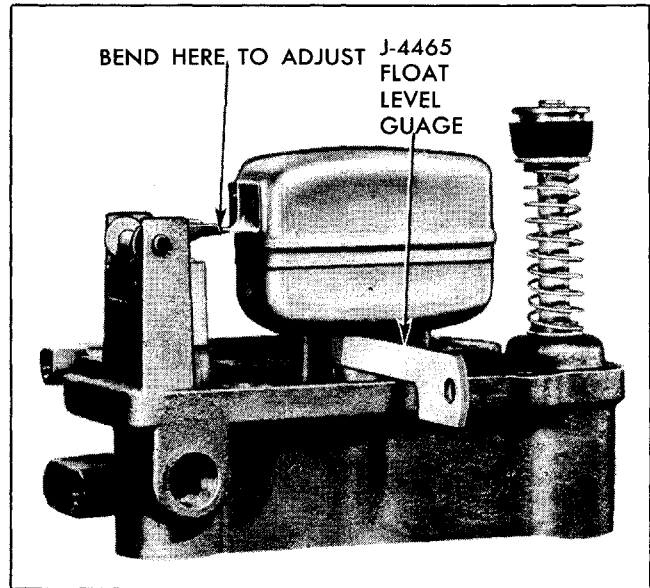

Fig. 6B-27 Float Adjustment—Carter
6. **FLOAT ADJUSTMENT:** With air horn inverted and needle seated adjust float arm so clearance between top center of float and air horn is $7/32'' \pm 1/64''$. Use gauge J-4465 (Fig. 6B-27). To avoid placing any strain on the float, do not grasp the float shell while bending the float arm.